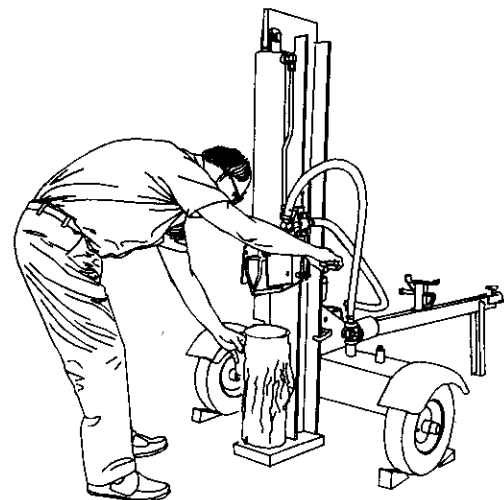

Figure 10
- Lock the beam in the vertical position, by pulling out on the vertical beam lock and pivoting it to the left. See Figure 10.
- Stand in front of the log splitter. Operate the control handle with your right hand and stabilize the log, if necessary, with your left hand. See Figure 10.